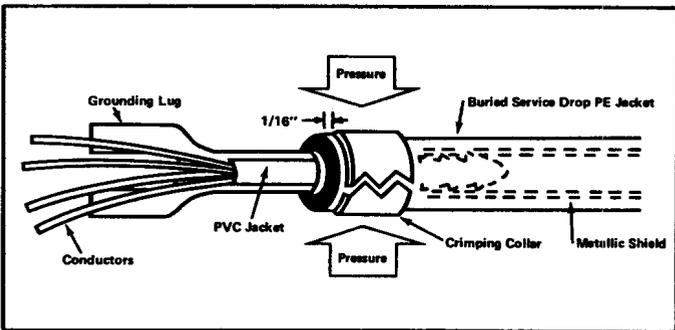

FIGURE 24.
6.07 Move the crimping collar to within 1/16 inch of the cut end of the outer jacket. Rotate it until the opening in the collar is on the opposite side of the service drop from the grounding lug. Crimp the collar. Ordinary pliers may be used for this operation, with pressure applied as shown in Figure 24 (the crimp will be oval and the teeth of the grounding lug will not close). Apply enough pressure to close the collar, ensuring penetration of the lug teeth into the metallic shield.